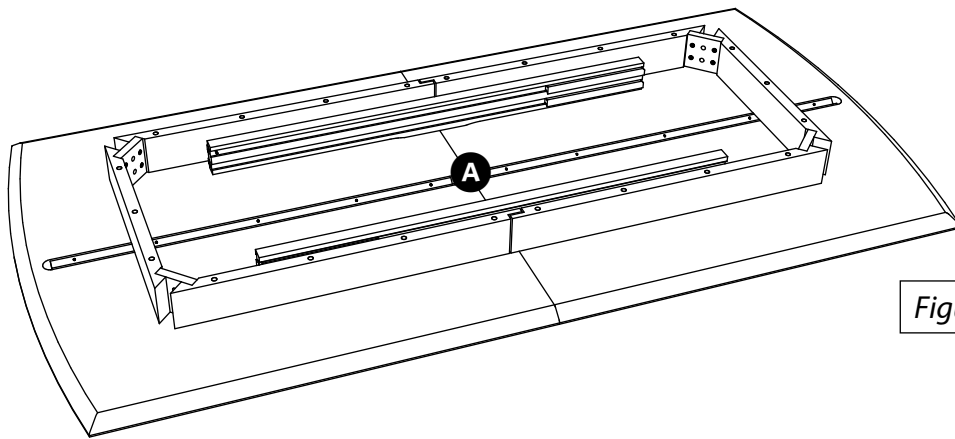

Figure 1
- 1) Turn piece **A** upside down and place on a soft, non-abrasive surface. See *Figure 1*.